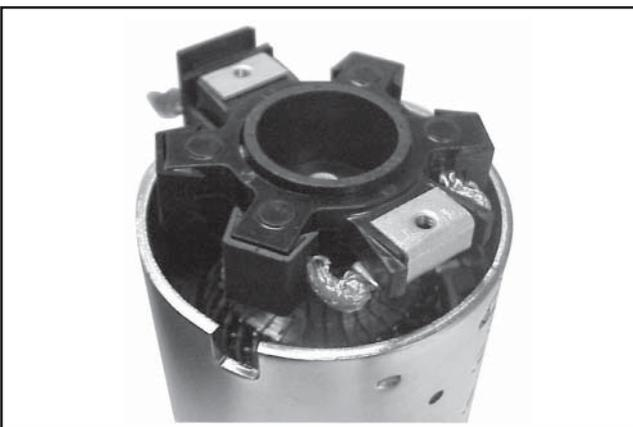

Figure 8-38. Installing Brush Holder Assembly with Supplied Tube.
- a. Hold the starter assembly vertically on the end housing, and carefully position the assembled brush holder assembly, with the supplied protective tube, against the end of the commutator/armature. The mounting screw holes in the metal clips must be "up/out." Slide the brush holder assembly down into place around the commutator, and install the positive (+) brush lead grommet in the cutout of the frame. See Figure 8-38. The protective tube may be saved and used for future servicing.